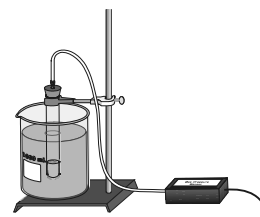

Figure 3
- a. Prepare a water bath at a temperature in the range of 0–5°C by placing ice and water in a 600 mL beaker. Using a thermometer check that the temperature remains in this range throughout this test. See Figure 3.